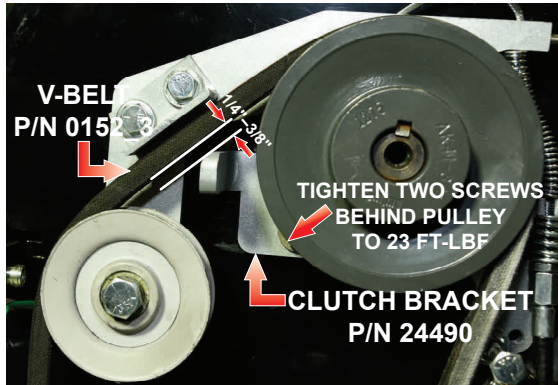

Figure 38. Clutch Bracket Adjustment
2. Position the clutch bracket (P/N 24490) so there is between 1/4 inch (6 mm) and 3/8 inch (9 mm) between the V-belt (P/N 0152 3) and the clutch bracket arm. Tighten the two screws (P/N 10229) securing the clutch bracket to 23 ft-lbf (31 N·m). See Figure 38.